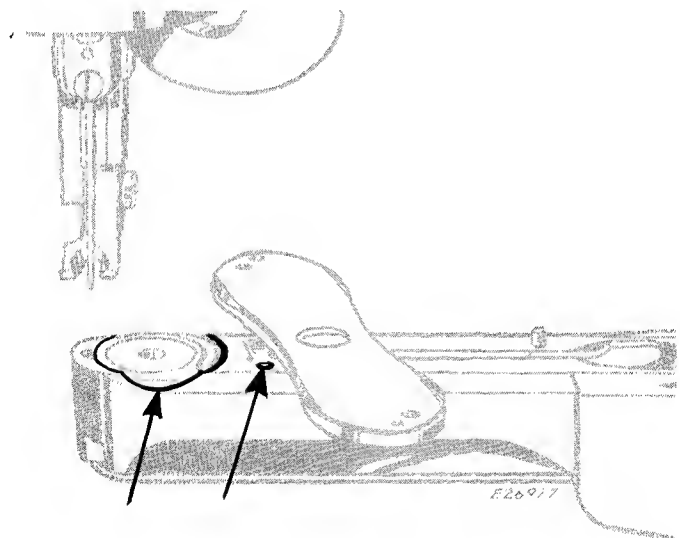
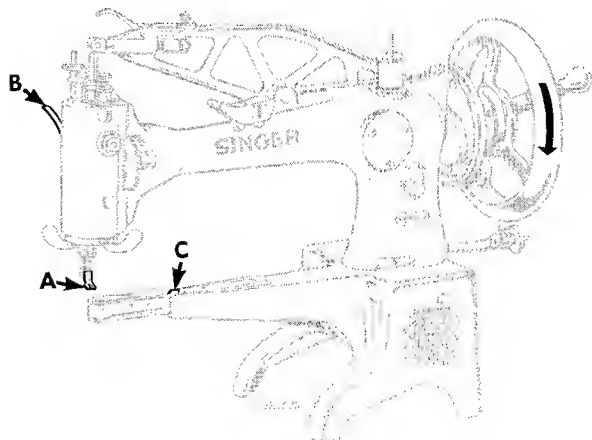

Fig. 4. Oiling Shuttle Race
Fig. 5. Operating Machine
To oil shuttle race, raise needle bar to its highest point and lift feeding foot A, Fig. 5 by moving lifter B upward.
Press down lever C, Fig. 5 and swing needle plate to position shown in Fig. 4.
Apply a drop of oil to the face of shuttle race and to the hole shown by arrow in Fig. 4.
1. Raise feeding foot **A**, **Fig. 5** by moving lifter **B** upward.
Raise needle bar to its highest point and lift feeding foot **A**, **Fig. 7** by moving lifter **B**, **Fig. 5** upward.